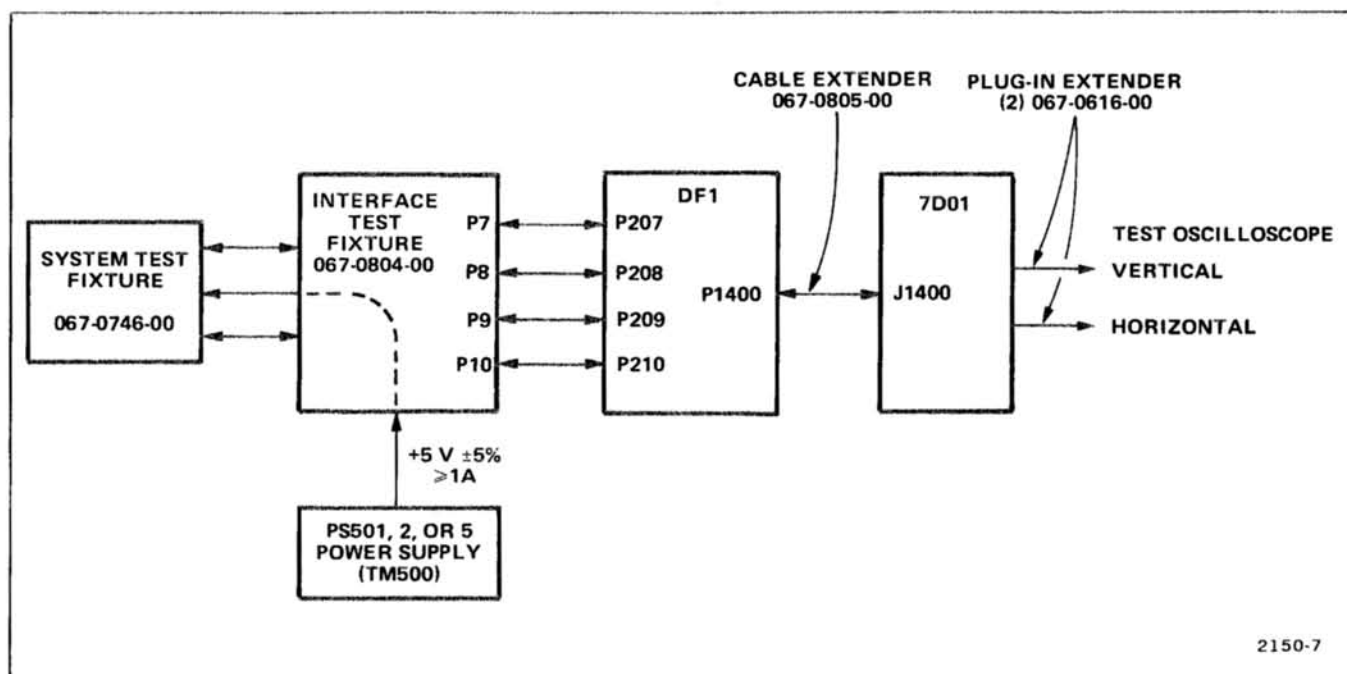
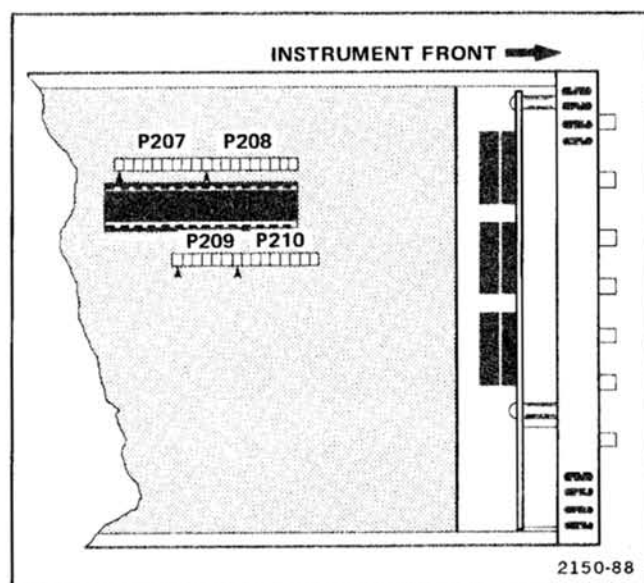

Figure 4-1. Test equipment setup for troubleshooting the DF1 Digital Formatter.
Figure 4-2. Partial view of Intelligence circuit board. Shows pin location and indexing for connection to the Interface Test Fixture.
- Connect test equipment as shown in Figure 4-1. The Interface Test Fixture is connected to the DF1 Intelligence circuit board as shown in Figure 4-2.
c. Press the STOP button; the ABA (address bus available) indicator should light. If the ABA indicator does not light, press the RESTART button. If the ABA indicator still does not light, recheck the test equipment setup illustrated in Figure 4-1. Also, check the DF1 clock circuits (01, 02), reset circuit, power supplies, and the Halt line (pin 2 of U264). Check that the BA output (pin 7 of U264) is not excessively loaded or shorted (low). If the ABA indicator